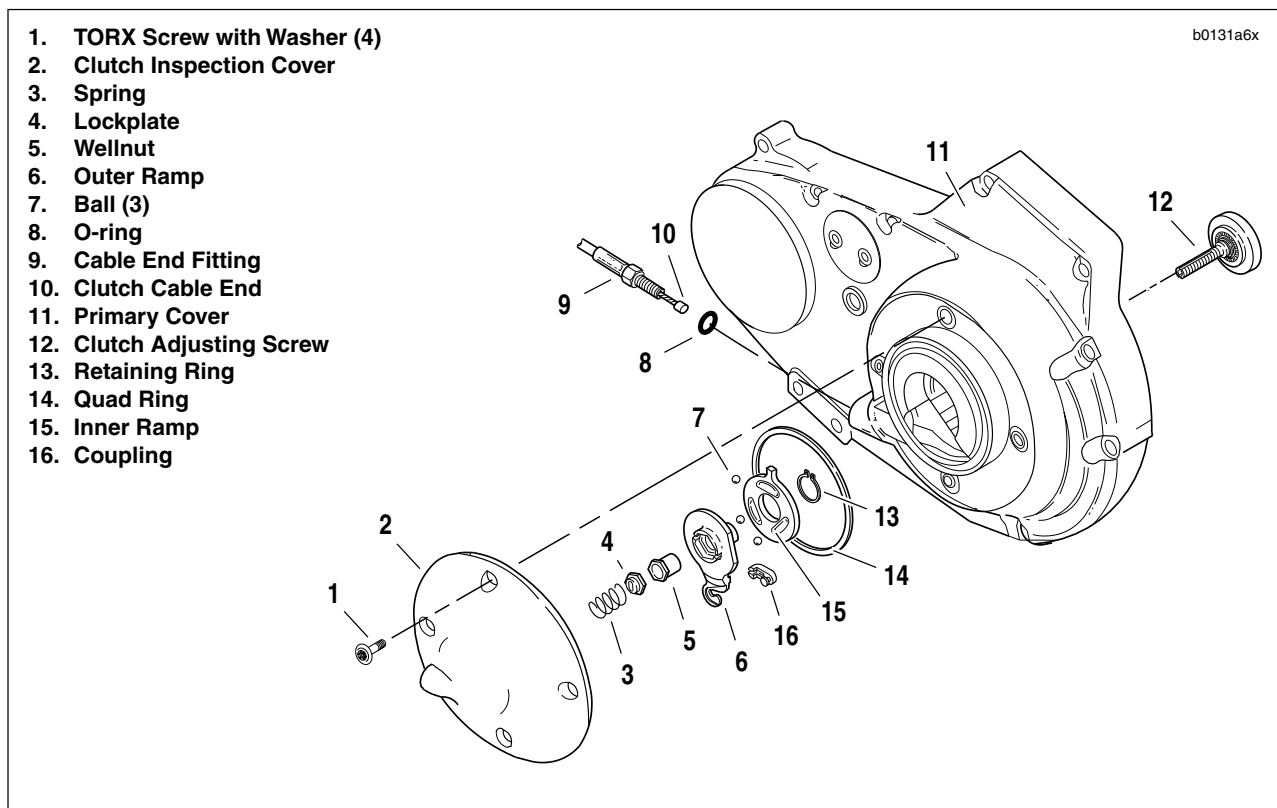

Figure 6-8. Clutch Release Mechanism
2. See Figure 6-8. Remove four TORX screws with washers (1) and clutch inspection cover (2).
3. Slide spring (3) with attached screw lockplate (4) from flats of adjusting screw (12).
4. Turn adjusting screw (12) clockwise to release ramp and coupling mechanism. As the adjusting screw is turned, ramp assembly moves forward. Unscrew nut (5) from end of adjusting screw.
5. Remove hook of ramp from cable end coupling (16). Remove cable end (10) from slot in coupling.
6. Remove and discard retaining ring (13) from ramp assembly to separate inner and outer halves. Remove three balls (7) from ramp sockets.
2. See Figure 6-8. Inspect three balls (7) of release mechanism and ball socket surfaces of inner and outer ramps for wear, pitting, surface breakdown and other damage. Replace parts as necessary.
3. Check hub fit of inner (15) and outer (6) ramps. Replace ramps if excessively worn.